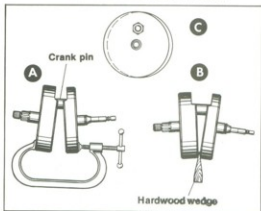

Figure 3-55. Correcting Flywheel Alignment
- Flywheel may be out of true three ways, A, B and C, Figure 3-55 or a combination of two of the three ways.